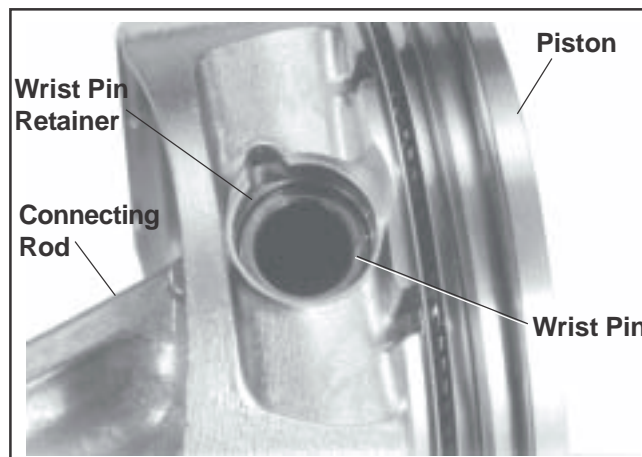

Figure 11-5. Installing Piston To Connecting Rod.
- Assemble the piston, connecting rod, piston pin, and piston pin retainers. See Figure 11-5.